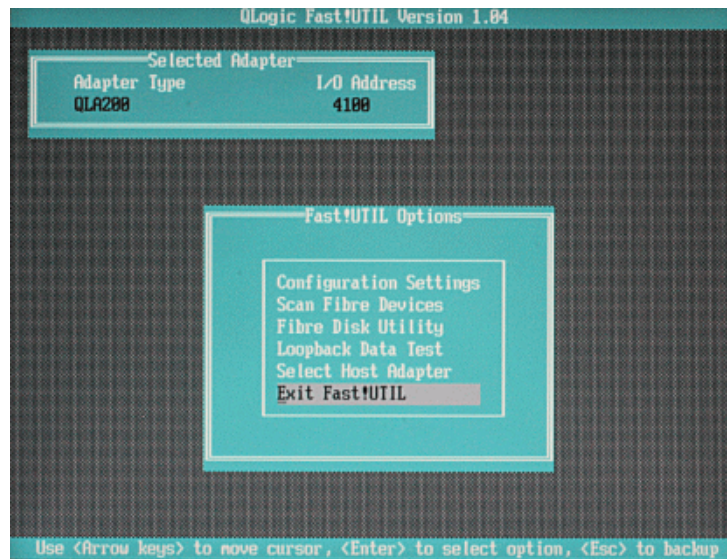

Figure 9-87 Fast!UTIL options —Exit Fast!Util
26. Select **Exit Fast!UTIL** and press **Enter** as shown in Figure 9-87.